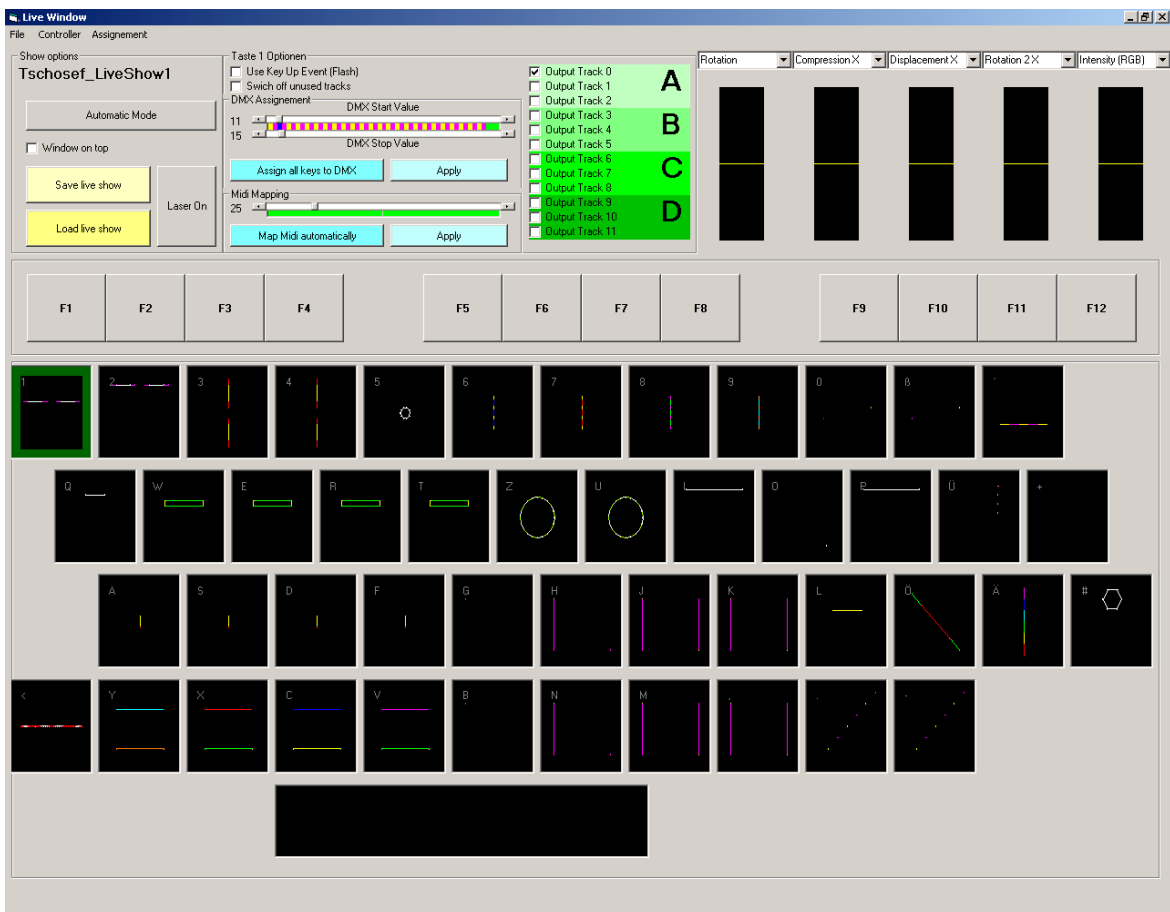

Fig.24: Live Window after loading a live show.
To load a prepared live show you can use the menu “File” → “Load Live Show”. Another way to load a live show is the following: Open the Live Window and push the button “Load Live Show”. Once a show has been loaded, this can be accessed again quickly via the menu File/List of already loaded shows. As for a music-synchronous show, all files for the live show have to be stored within one folder. The file extension of a live show is *.live. After successful loading you will see a window on your screen as shown in figure 24.
The currently selected key can be identified by its green surrounding frame (see Fig.24, key 1). The “Space” key switches off all projections.